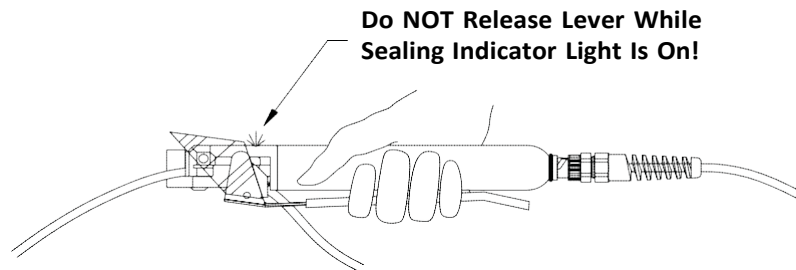

Figure 3-6, Maintaining Compression During the Entire Sealing Process
| Figure 3-6, Maintaining Compression During the Entire Sealing Process..... | 3-4 |
2. To make a seal, squeeze the lever until the magnet on the lever touches the Sealing Head body, and hold it there. See Figure 3-6, Maintaining Compression During the Entire Sealing Process. This action compresses the tubing and activates the sealing energy, visually indicated by the illumination of the sealing indicator light. *Continue to squeeze the lever until one second after the sealing indicator light goes completely out.*
| | Sealing Head held improperly. | Ensure that the Sealing Head is being held properly (see Chapter 3, Figure 3-6, Maintaining Compression During the Entire Sealing Process) with the sealing region opening upright. |